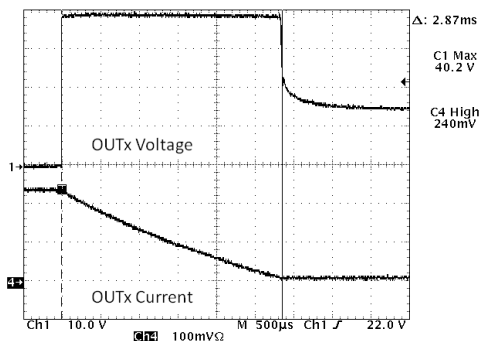

Figure 4. Repetitive Clamping Energy Test
- Testing particulars, 2M pulses,  $V_{bat} = 15\text{ V}$ ,  $63\ \Omega$ , 390 mH,  $T_A = 25^\circ\text{C}$ . (See Figure 4)